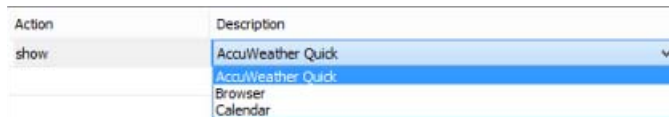

FIG. 385 Edit Event Actions dialog - Application added
- Under **Description**, select an Application for this Launch Action from a drop-down menu of all Application windows in this project (FIG. 385):